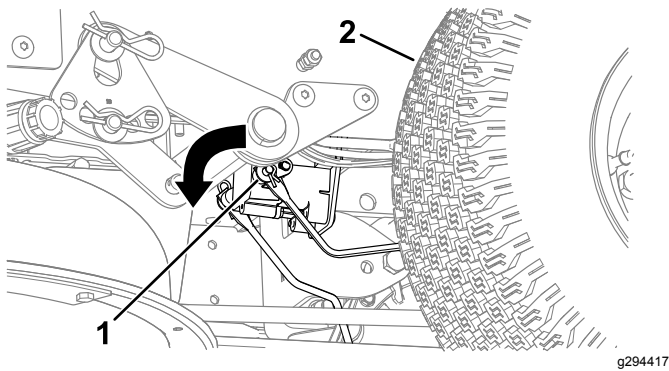

Figure 47
2. Locate the shaft on the electric brake where the brake link arms are connected (Figure 47).